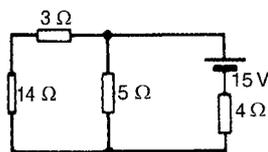

Figure 13.48
- 1 Use Thévenin's theorem to find the current flowing in the 14 Ω resistor of the network shown in Fig. 13.48. Find also the power dissipated in the 14 Ω resistor. [0.434 A, 2.64 W]